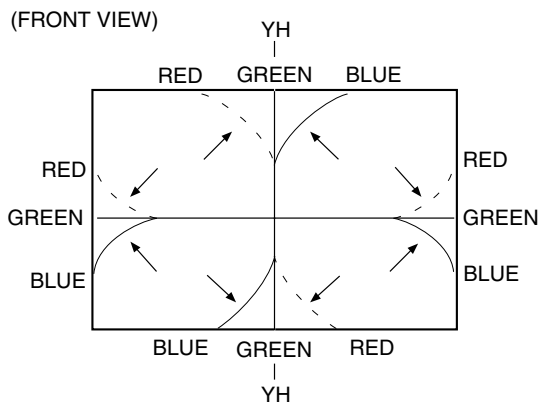

Fig. 11
1. Using the Y_H VR on the deflection yoke, match the Y_H (CROSS). (Fig. 11 and 14)